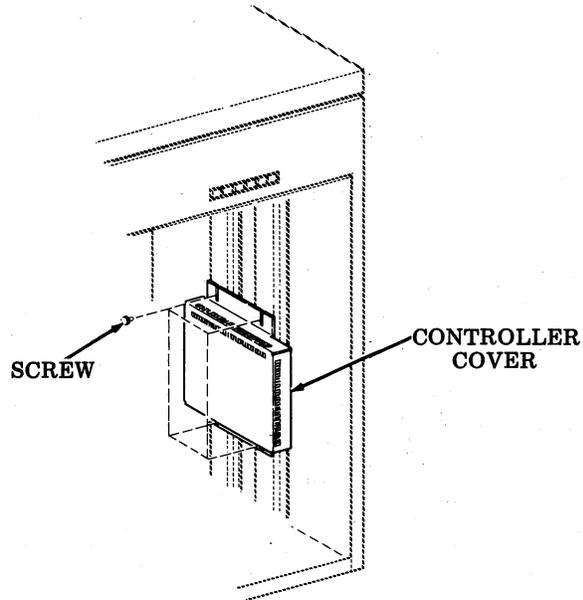

Fig. 44—Controller Assembly
- (c) To assemble controller cover with controller to forms access cabinet engage upper mounting screws of cabinet in upper (longer) slots of cover; slide cover up to limits of slots and engage lower slots with mounting screws, slide cover down. Tighten four screws (Fig. 44).